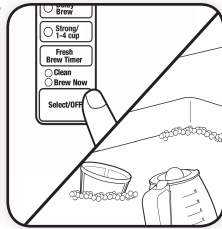

Figure 3
- 3 When brewing is complete, turn the coffeemaker off, discard the water in the Carafe, and rinse the Carafe, Carafe lid, and Removable Filter Basket. (Figure 3)